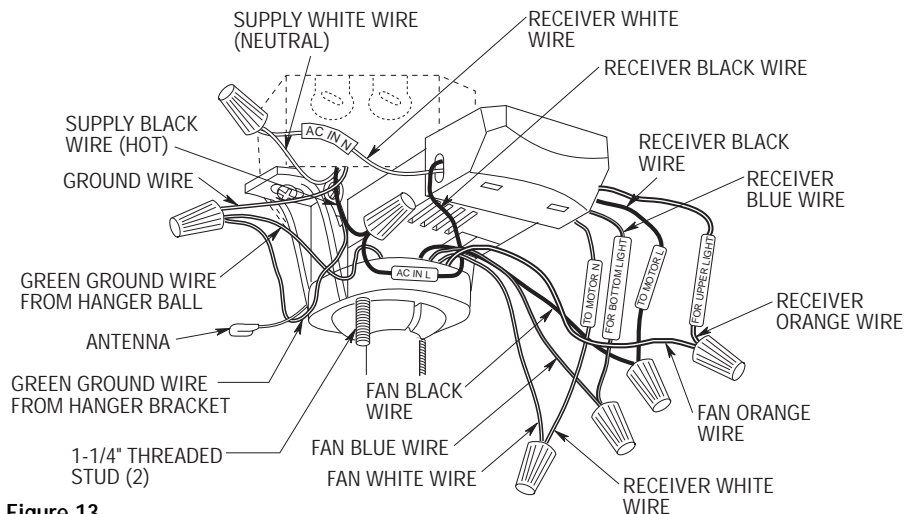

Figure 13
- 1. Position the supply wires to the left side of the outlet box (Figure 13); position the fan wires to the right side. Partially insert the remote control receiver (flat side up) until one end rests on the hanger ball as shown in Figure 13.
- 2. Refer to Figure 13 and 14 and connect the receiver wires to the supply wires and the fan motor wires as follows:
- 4. Screw the two 1-1/4" threaded studs (supplied) into the tapped holes in the hanger bracket (Figure 13).